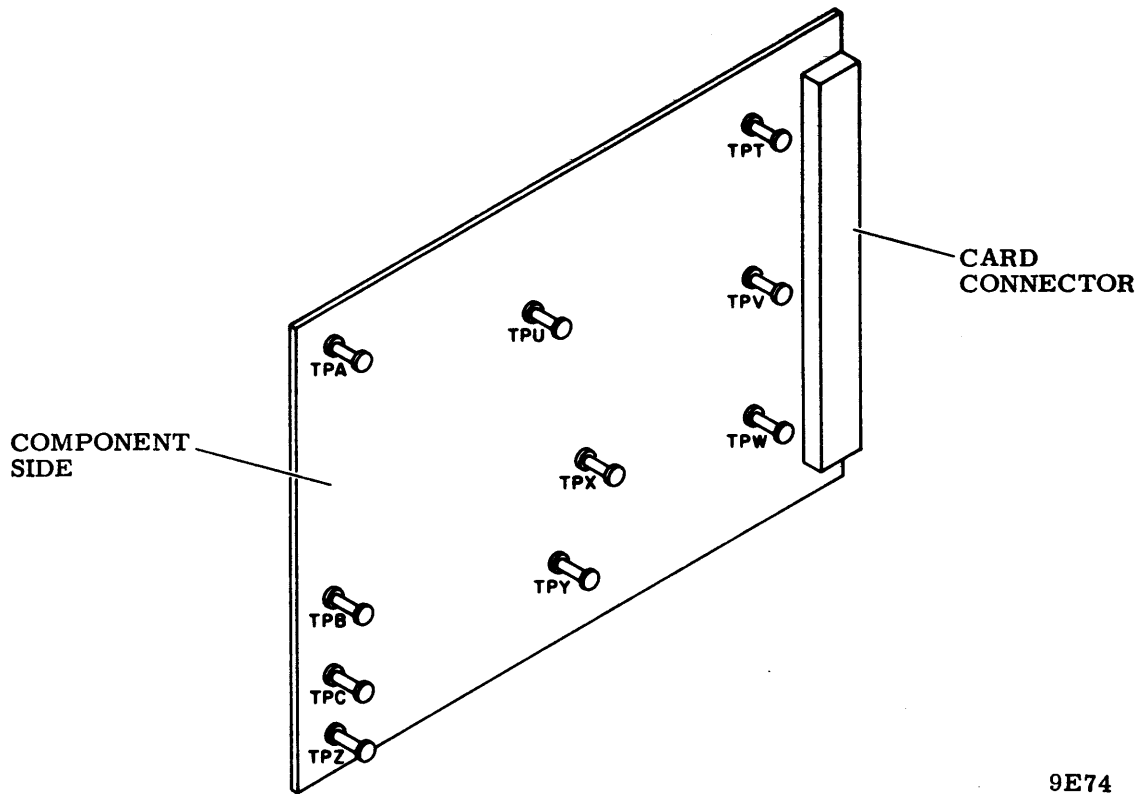

Figure 2-14. Card Test Points
The card test points (refer to figure 2-14) are located on logic cards located in either the logic or read/write chassis. These test points are located on the component side of the cards and consist of studs to which an oscilloscope probe can be attached.
The test points are located anywhere on the component side of a card and are lettered alphabetically (omitting letters I and O). When viewed from the component side with the connector at the right, the test points appear as follows (refer to figure 2-14):
- All other test points are assigned in reverse order from the end of the alphabet (Y, X, W, etc). Y is nearest to the bottom right of the card and the letters progress (in reverse order) from right to left in successive rows from bottom to top (refer to figure 2-14).